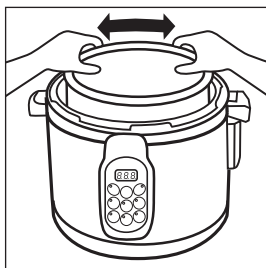

Figure 7
3. Clean the Inner Pot (6) and the Heating Plate (16) before cooking: be sure there are no sundries left in the Outer Pot (7) or on the surface of the Heating Plate (16); turn the Inner Pot (6) slightly left to fit it well with the Heating Plate (16). See the figure 7.